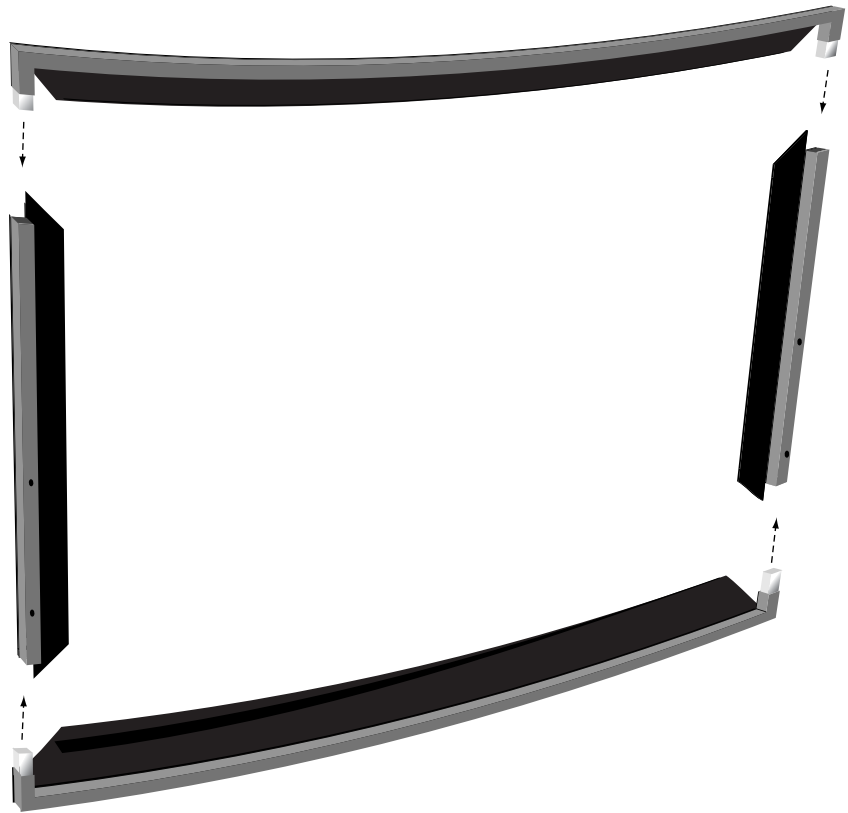

Figure 1: Assembling the frame
1. Connect the frame members by matching the colored, numbered dots on the ends of the frame pieces. Refer to Figure 1.
1. Assemble the frame. Refer to the section “Assembling the Frame” and Figure 1.